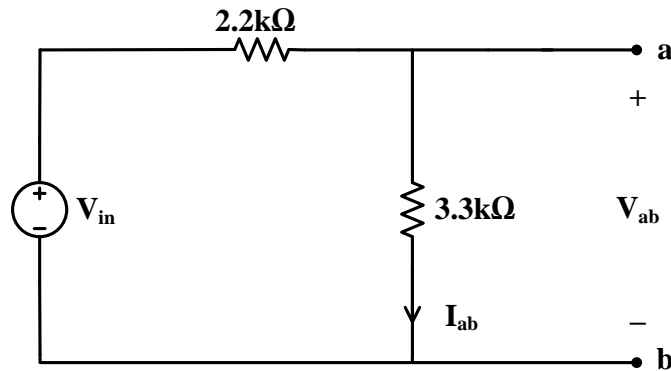

Figure 2
2. Calculate V_{ab} , I_{ab} when $V_{in} = 3V, 5V, 7V, 9V,$ and $12V$ for the circuit given in Fig.2. Plot V_{in} vs. V_{ab} and I_{ab} vs. V_{ab} in MATLAB and calculate the slopes.
2. Build the circuit in Fig. 2, and measure the voltage V_{ab} and the current I_{ab} for $V_{in} = 3V, 5V, 7V, 9V, \text{ and } 12V$.